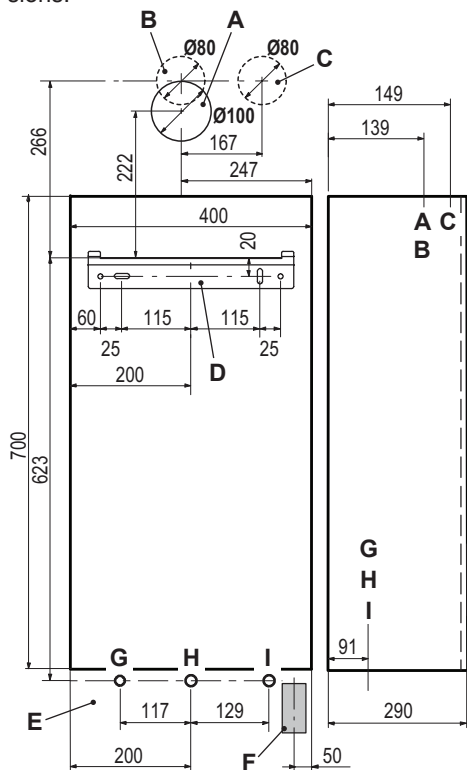

Fig. 6.2
- Fix the C.H. valves "K" to position "G" and "I" (Fig. 6.2) using the  $\frac{3}{4}$ " gaskets.
- Fix the gas cock "L" to position "H" (Fig. 6.2), using the  $\frac{3}{4}$ " gasket.